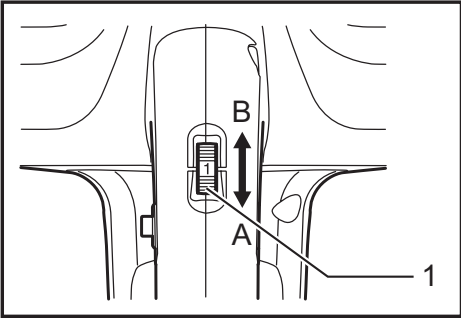

Fig.2
► **Fig.2:** 1. Air volume adjusting dial